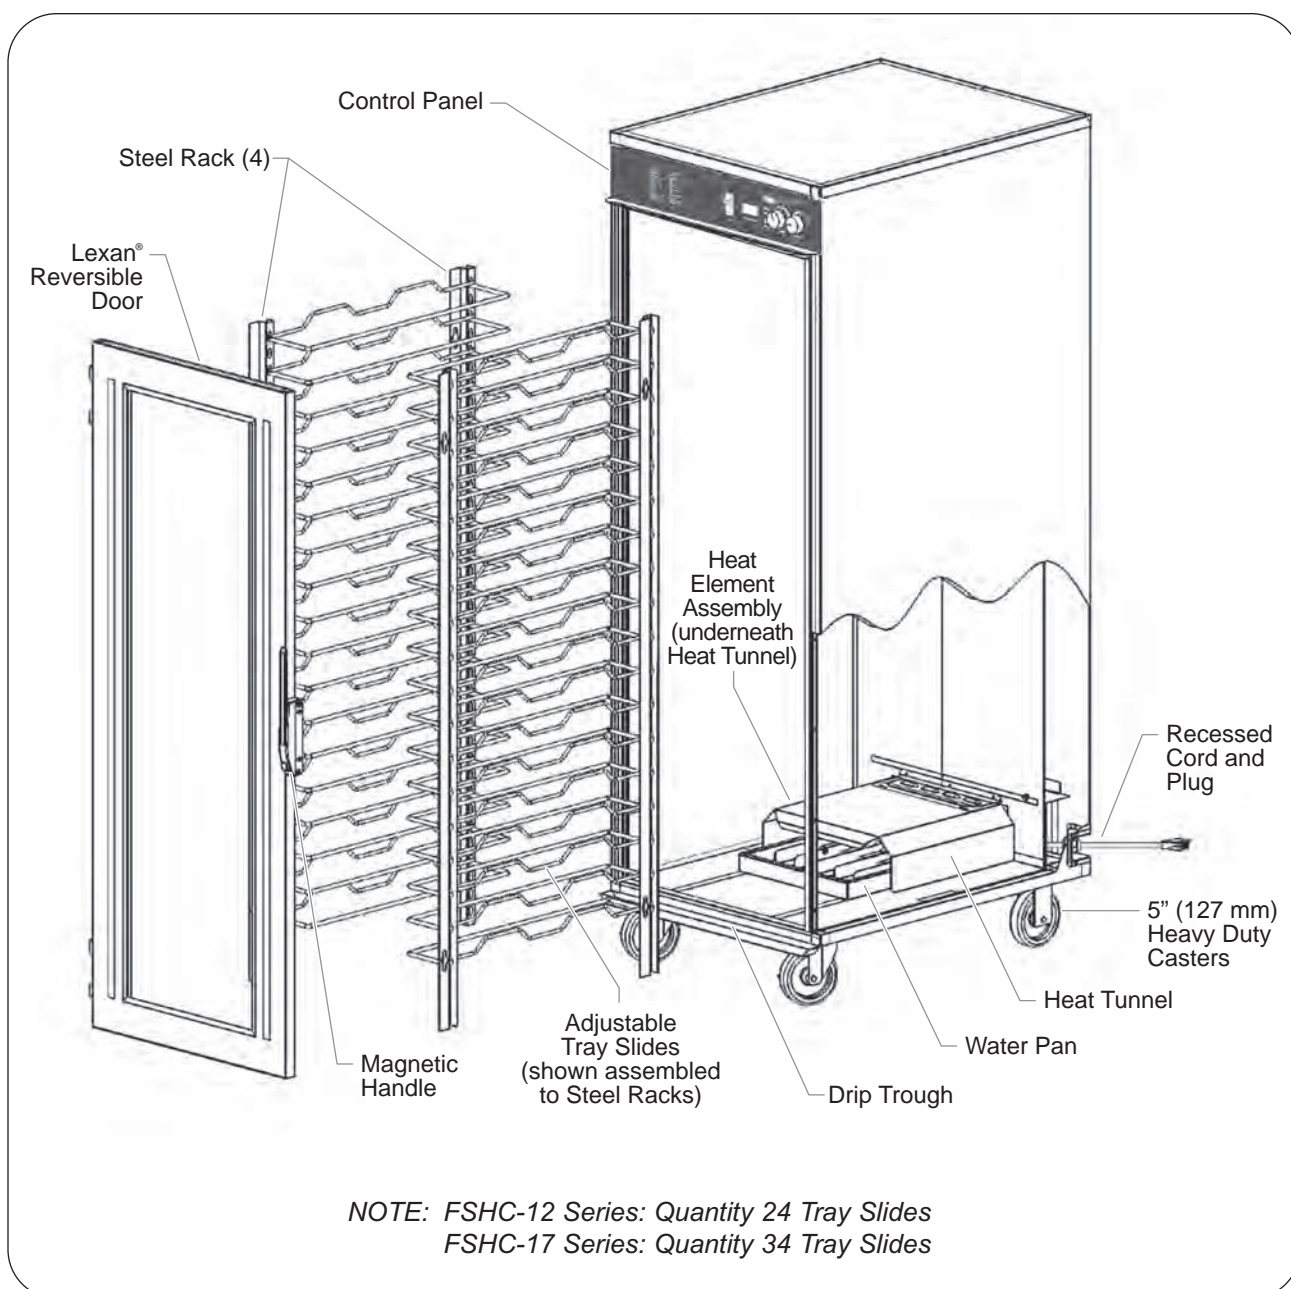

Figure 6. Cabinet Components Exploded View
4. Unpack the adjustable tray slides from the carton and install them to the steel racks as shown in Figure 6.
NOTE: Operating at a high humidity setting for extended periods of time may require the drip trough(s) to be emptied periodically (located at the bottom of the door, see Figure 6.).